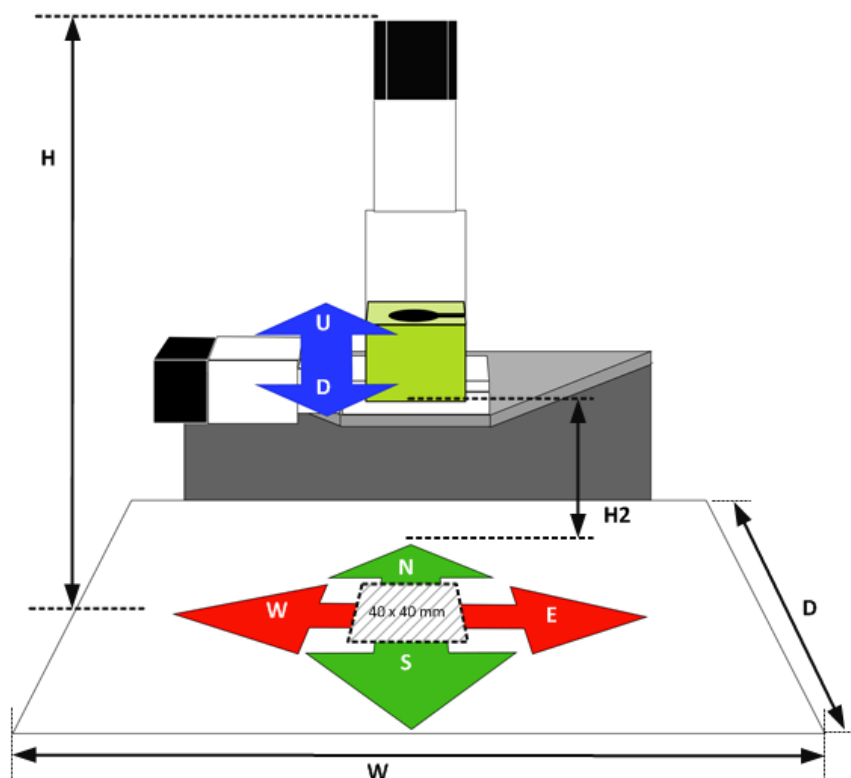

Figure 11 Main dimensions and control directions of the Probe Station.
6. Press and hold the on-screen buttons N (North), E (East), S (South), W (West), U (Up) or D (Down). See Figure 11. This activates the different motors.